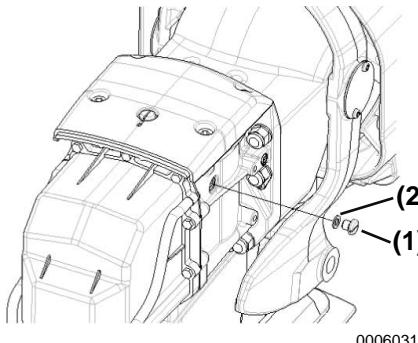

Figure 17
- Remove the oil vent plug and gasket (**Figure 17, (1)**).